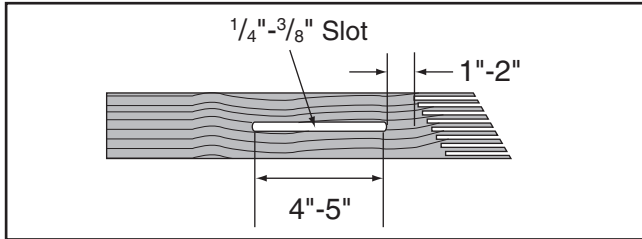

Figure 77. Slot routed in featherboard.
4. Rout a $\frac{1}{4}$ "- $\frac{3}{8}$ " wide slot 4"-5" long in the workpiece and 1"-2" from the short end of the featherboard (see **Figure 77**).